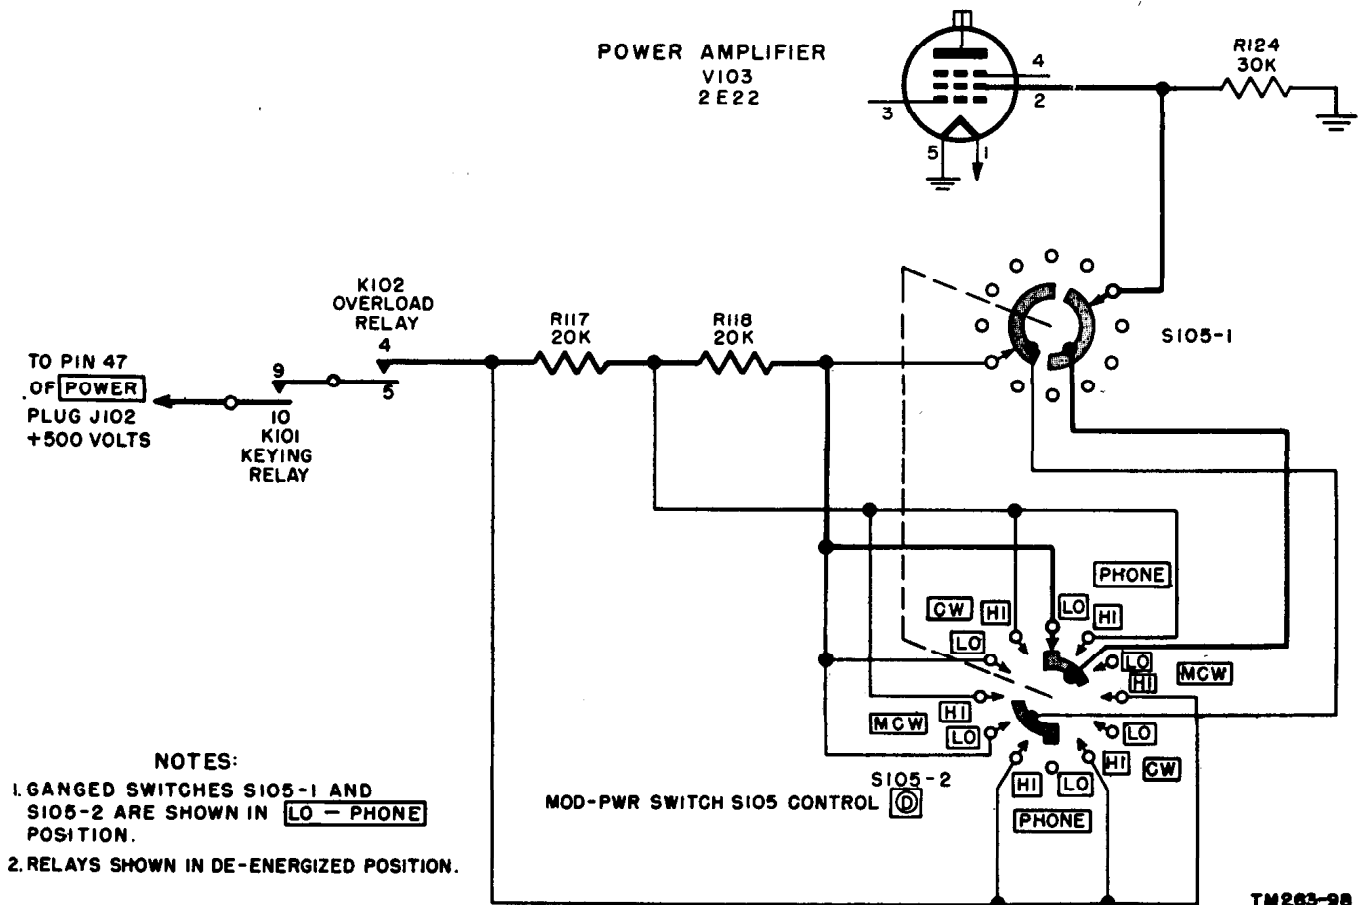

Figure 78. LO power position of control ①, simplified schematic diagram.
a. *LO Power Position* (fig. 78). If the weighted line in the figure is followed from the screen grid, pin 2, of V103, it will be seen that the screen current passes through S105-1 and S105-2 to the series combination of resistors R117 and R118, and then to the power supply through the contacts of relays K102 and K101 (when energized). This series arrangement of the two resistors is the LO power circuit, since the screen of V103 is at a low potential because of the large drop across the series combination of R117 and R118.
The pa tube is operated as a class C amplifier and the grid bias is developed by the dc grid current flowing through R106, winding A of overload relay K102, and R107 when a signal is applied to the control grid. If the grid excitation should fail, the bias would be lost and this would result in a plate current large enough to ruin the tube. Relays K101 and K102 provide a protective circuit for the tube. Overload relay K102 is actually a screen grid cutout relay which protects V103 in case of excitation failure. Relay K101 prevents screen grid voltage from appearing until the transmitter is placed in the operating position. See figures 78 and 79 for the proper circuitry of resistors R117 and R118.